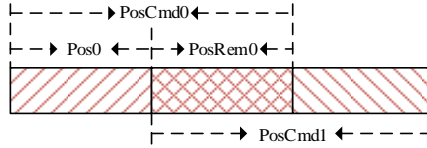

Fig. 12.14 Schematic diagram of relative position command operation
② The relative position command takes the actual position value as the reference point. The position command value of the next segment takes the actual position value in operation as the reference point to calculate the target position value. As shown in Figure 12.14, the Setting value of the first segment position command is PosCmd0, and after running the pulse of Pos0, the second segment relative position command PosCmd1 is inserted, then the total number of pulses run by the second segment position command is PosCmd1, and the final operation position value is Pos0+ PosCmd1.